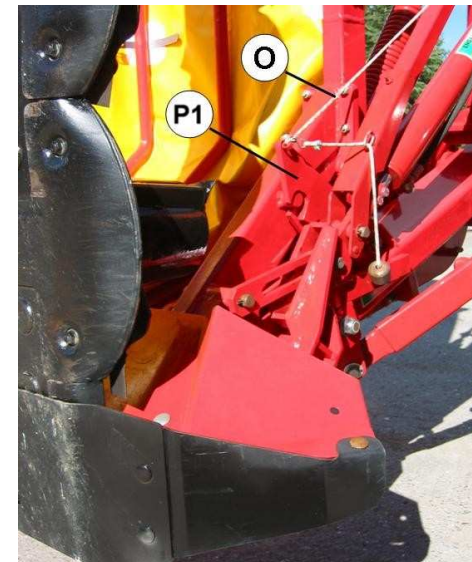

Fig. 29
6) Slowly lift the mower to a vertical position, using the hydraulic hitch. Release the traction of cord **O** (Fig. 29) while raising the bar vertically; it will automatically hook up, for transport, with safety hook **P1**.